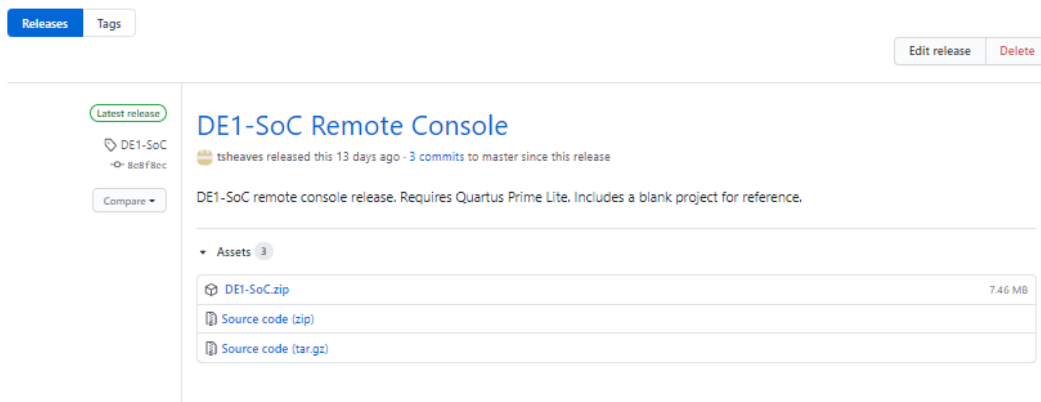

Figure 3: Blank Project GitHub download
- ☐ You should see a page that looks like Figure 3 below. Click on the zip file link, followed by download and save it. Save the DE1-SoC.zip file to a directory that does not have spaces in the path name! IMPORTANT: No spaces such as C:\Users\Student\Documents\My First FPGA . You need to make the directory C:\Users\Student\Documents\My_First_FPGA .